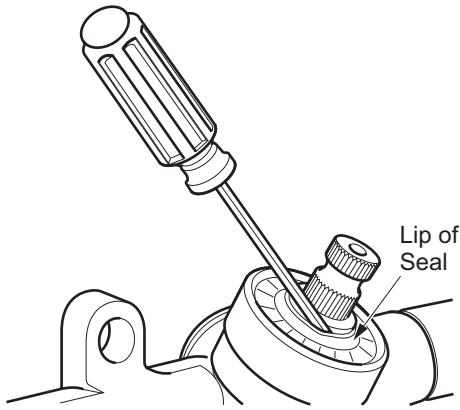

Figure 15 Pinion Seal Replacement
2. Slide a small straight blade screwdriver between lip of seal and pinion and pry top portion of seal up to remove (Ref. Figure 15).